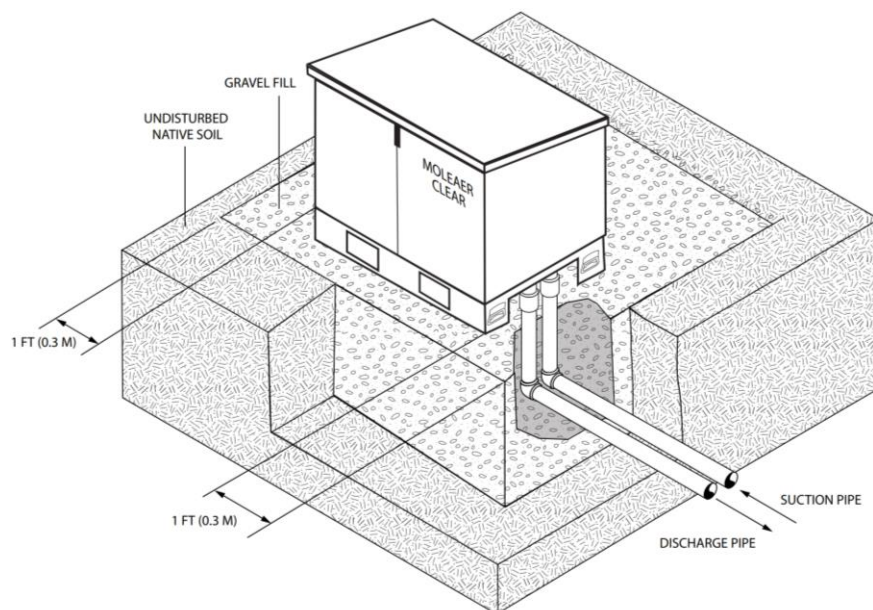
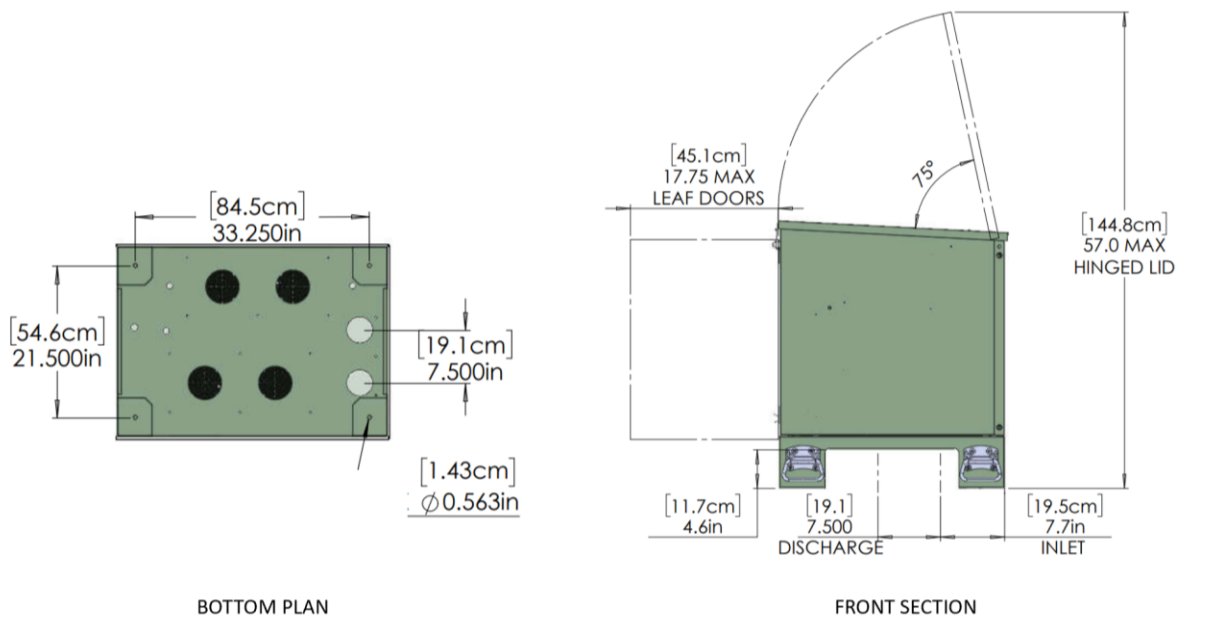

Figure 3: Clear Isometric Installation Diagram
Figure 5: Clear Enclosure Dimensions
The installation diagrams for the Clear are shown in Figures 3 and 4. Using a shovel, dig a hole approximately 5 ft (1.5 m) Long (L) x 5 ft (1.5 m) Wide (W) x 1 ft (0.3 m) Deep (D). The Clear will be installed with the pressure gauges facing away from the waterbody. Near the edge of the hole
Refer to the pipe connections extending from the base of the Clear that are shown in Figure 3. Using PVC primer and cement, glue elbows to the first straight, horizontal pipe segments of suction and discharge piping and lay these pipe segments in the pipe trench with the elbows facing up. Refer to Figure 5 for Clear enclosure dimensions and pipe penetration locations to properly position the elbows.